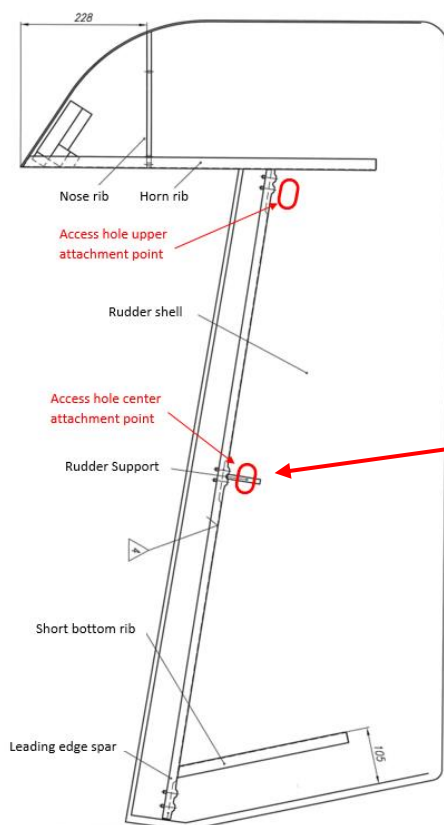
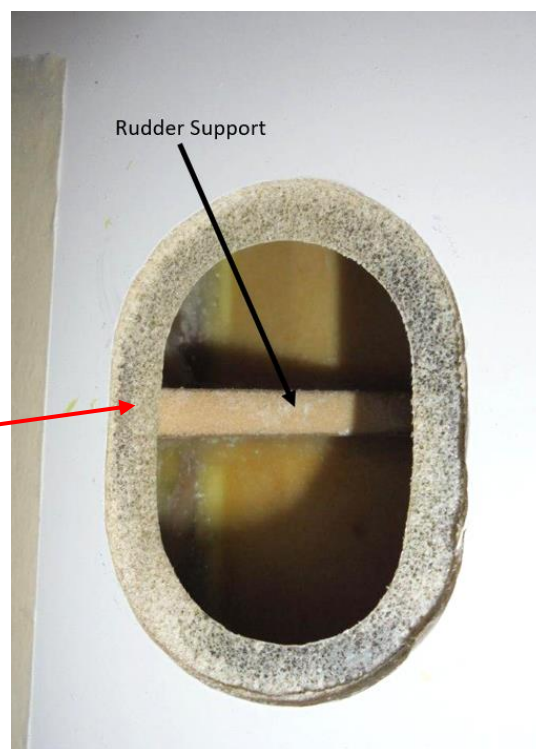

Figure 1: Illustration of rudder and example of access holes
Figure 2: Rudder support installed on top of center attachment point
7.1.4 For access to the upper and center attachment point, cut an access hole into the left rudder shell as small as practical. For example refer to Figure 1 and Figure 2.